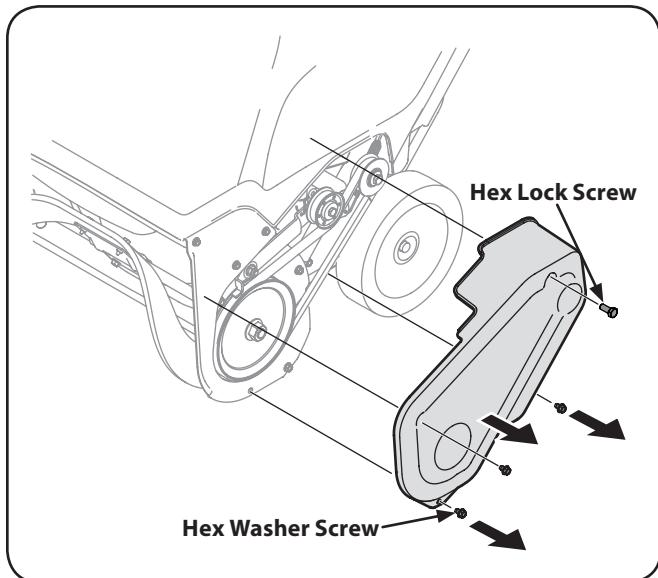

Figure 7-1
- Remove the belt cover by removing the three hex washer screws and one hex lock screw that secure it to the frame. See Fig. 7-1.